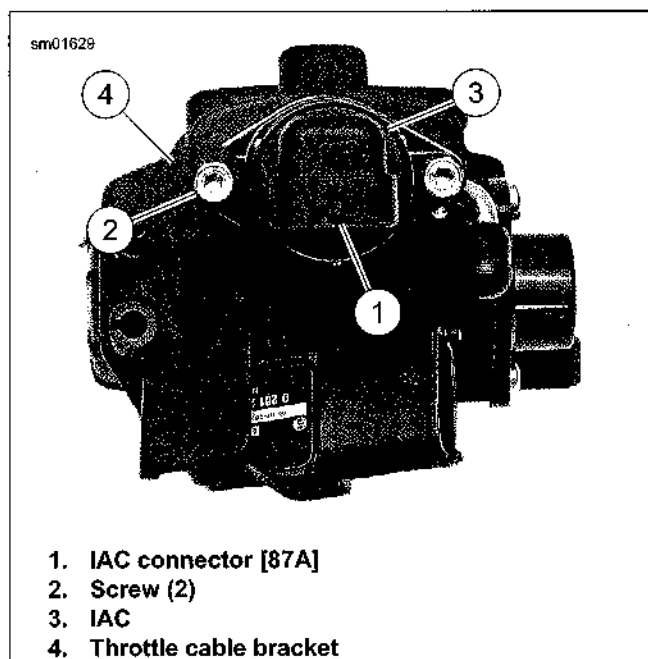

Figure 4-28. IAC Removal
3. See Figure 4-28. Unplug harness connector [87B] from IAC connector [87A] (1).
- a. See Figure 4-28. Apply a drop of LOCTITE 243 MEDIUM STRENGTH THREADLOCKER AND SEALANT (blue) to the threads of each screw.
- b. Install two screws (2).
8. Plug harness connector [87B] into IAC connector [87A] (1).